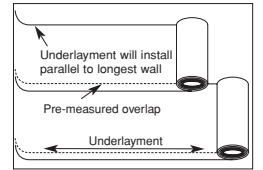

Figure 13
- The floating floor underlayment already has double-sided tape for ease of taping the pre-cut overlapping seams (Figure 13). If a non-adhesive underlayment is used, tape all seams with the included tape.